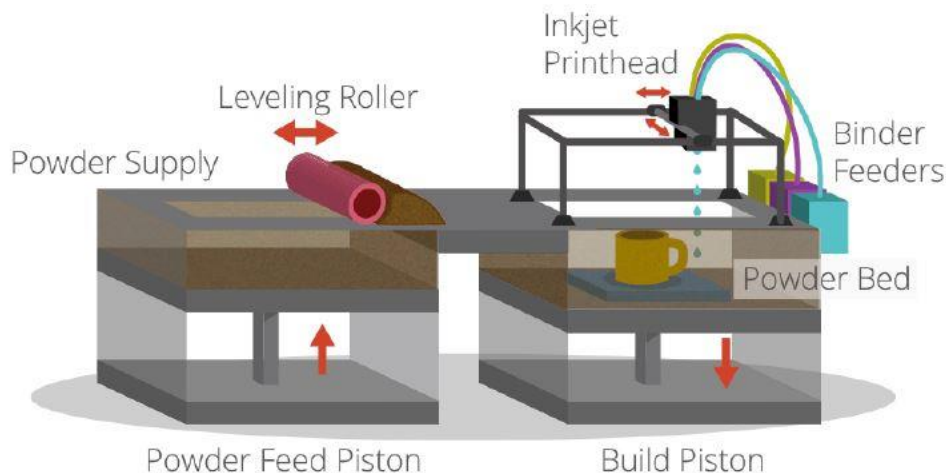

Fig 4.14 Binder Jetting Method of 3D Printing
- 1. Binder Jetting:** In this technique as shown in Fig. 4.14, the material being jetted is a binder, and is selectively sprayed into a powder bed of the part material to fuse it a layer at a time to create/print the required part. As is the case with other powder bed systems, once a layer is completed, the powder bed drops